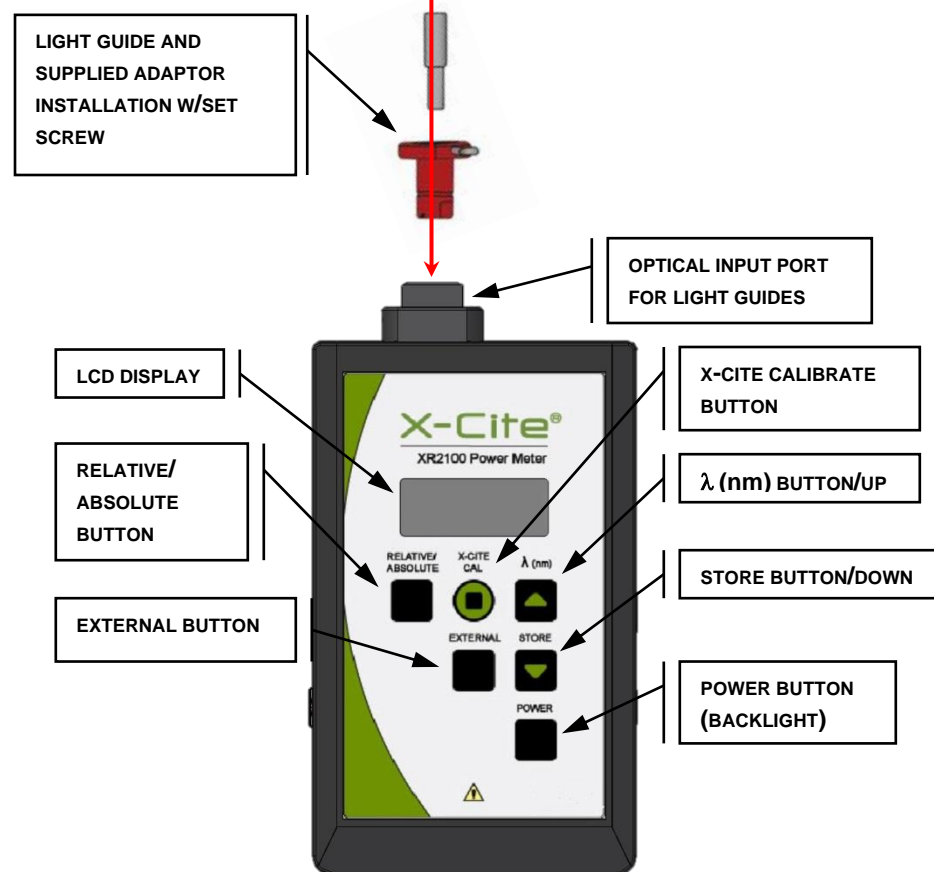

Figure 1: XR2100 Keypad (refer to user guide for complete details)
1. Install the light guide adaptor corresponding to the size of your light guide into the Optical Input Port of the XR2100. Refer to Figure 1 for location.